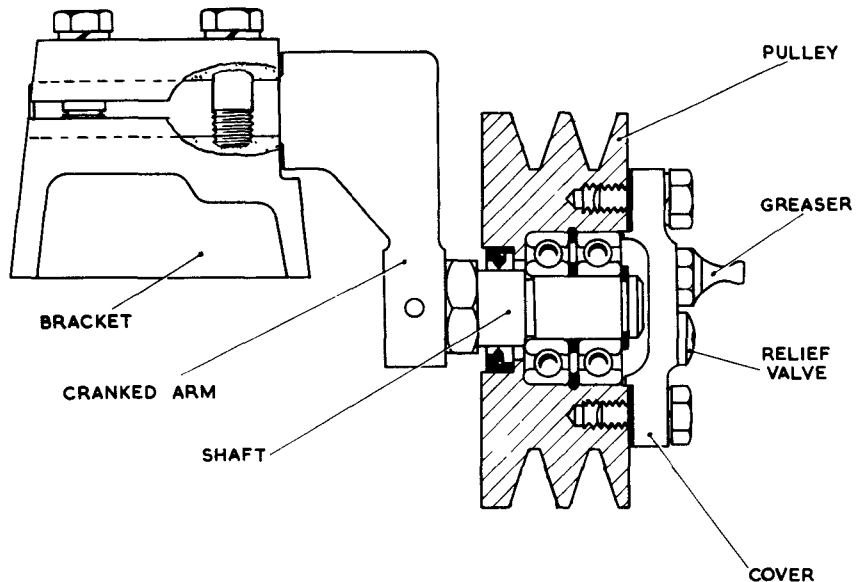

Fig. 19 Fan belt adjusting pulley
- (1) Drain the sump and remove the dipstick.
- (2) Take off the air cleaner and inlet manifold, the exhaust manifold and (if still fitted) the silencer. Remove the fuel feed pump delivery pipe.
- (3) Take off the belt guard(s) and belts.
- (4) Remove the fuel filter, air cleaner bracket and front lifting hook and the fan belt adjusting pulley bracket assembly (fig. 19).
- (5) Take out the speed control rod clevis pin and take off the rod and its bracket; the rod setting should not be altered.
- (6) Remove the instrument panel and leads (if the panel is engine-mounted) or the oil pressure gauge and its bracket.
- (7) Take off the upper portion of the air cowling.
- (8) Disconnect the injection pump feed pipe at the pump. Remove the pump leak-off pipes, delivery pipes and injector leak-off pipes.
- (9) Take off the engine rear lifting hook, the lower portion of the air cowling, and the fan assembly. Remove the injection pump feed pipe.
- (10) Remove the fuel feed pump.
- (11) Take off the oil cooler. Remove the rocker oil pipe, oil pressure gauge pipe, oil filter delivery pipe and the main oil gallery pipe.
- (12) Disconnect the lubricating oil filter intake pipe, take off the filter and its adapter and remove the intake pipe.
- (13) Withdraw the injectors.
- (14) Take off the rocker covers and decompression mechanisms, slacked the cylinder head nuts, remove the rocker assemblies and lift out the rocker pushrods. Take off the cylinder heads complete with pushrod tubes and valves.